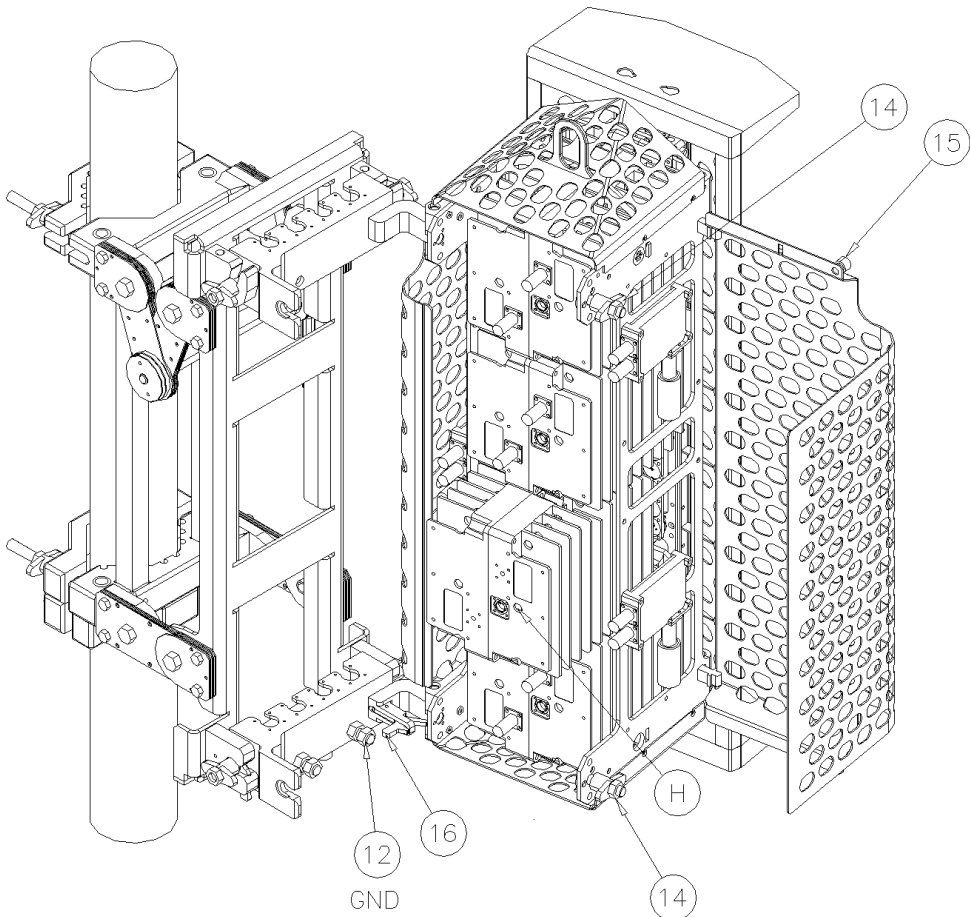

Figure 15: BEAMER dismounting
**2.6.4. BEAMER Dismounting (Figure 15):**
**2.6.5. BEAMER Mounting (Figure 15 and 16)**